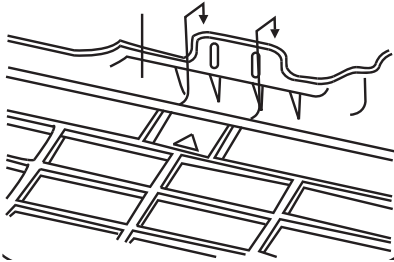
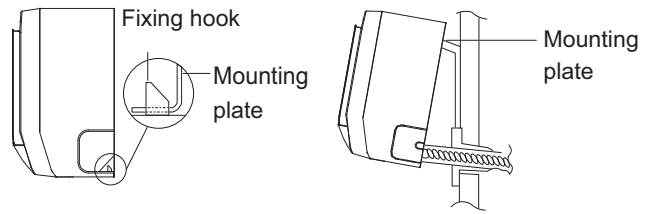

Fig. 12 – Hanging Indoor Unit
Fig. 15 – Hang Indoor Unit
4. Hang indoor unit on upper hooks of wall mounting plate (as shown in Fig. 12 and Fig. 15).